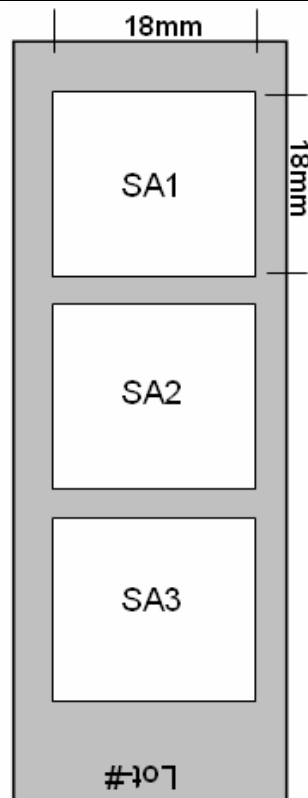

Figure 2: Schematic layout of peptide microarray (SA=subarray)
A schematic layout of the peptide microarray is shown in Figure 2.
As shown in Figure 2 the peptide array is printed in three identical subarrays (SA). This enables efficient intra-chip-reproducibility tests using scatter plots or correlation functions.